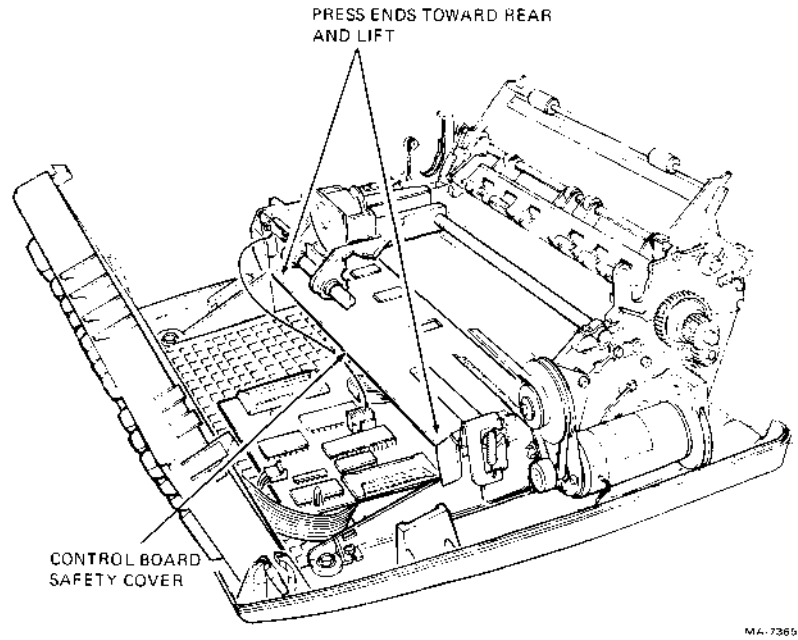

Figure 3-6 Control Board Safety Cover Removal
9. Remove the control board safety cover (Figure 3-6).